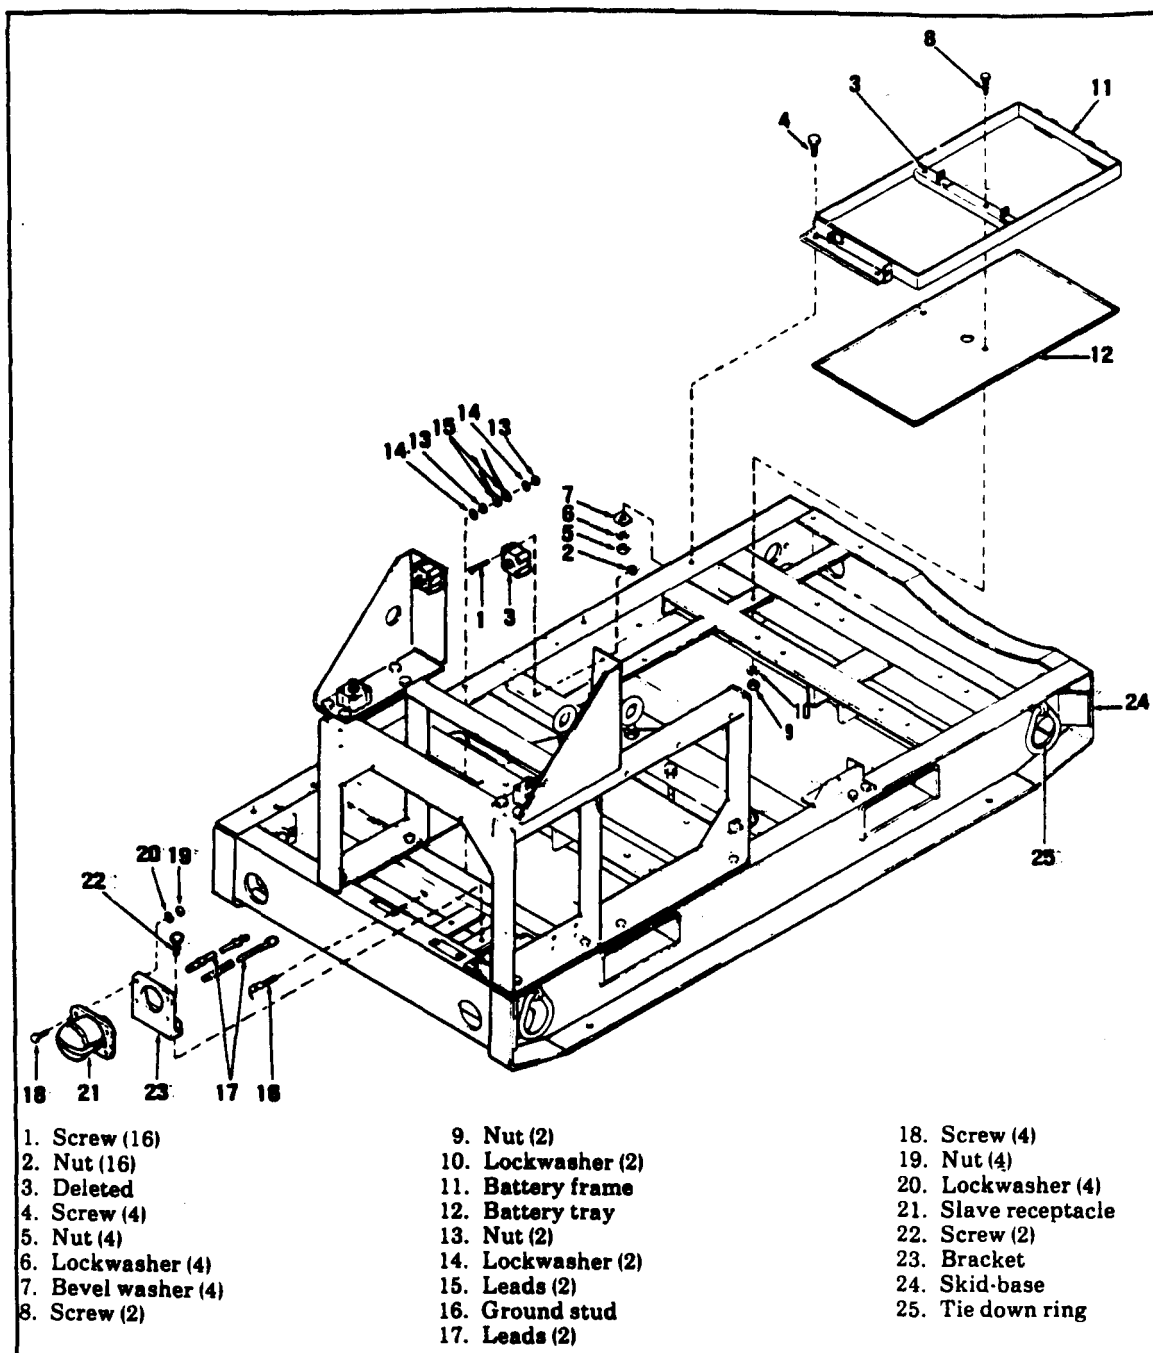

Figure 4-45. Skid Base Assembly.
a. Inspect (see figure 4-45). On ASK equipped generator sets, refer to chapter 5 and remove entire ASK assembly.
(1) Vibration Mounts. Inspect vibration mounts (3) for cracked rubber and loose or missing hardware.
(2) Battery Frame Bottom. Inspect battery frame (11) for corrosion, bends, dents or broken welds.
(3) Battery Tray. Inspect battery tray (12) for corrosion, or physical damage.
(4) Ground Stud. Inspect ground stud (16) for physical damage to threads, nuts and washers.
(5) Tie Down Ring. Inspect tie down rings (25) for physical damage. Check that they are securely mounted to skid-base.
(6) Skid-Base. Inspect skid-base (24) for physical damage. Check that skid-base is not bent or bowed.
b. Remove (see figure 4-45).
(1) Vibration Mounts.
(b) Remove four screws (1, figure 4-45) and nuts (2) attaching each mount in place and remove mounts (3).
(2) Battery Frame and Tray Removal.
(b) Remove screws (4 and 8, figure 4-45), bevel washers (7), lockwashers (8 and 10), and nuts (5 and 9). Remove frame (11) and tray (12).
(3) Ground Stud. Remove nut (13) and lockwasher (14) attaching ground leads (15) from starter to ground stud (16). Remove nut (13) and lockwasher (14) attaching ground stud to skid-base (24). Remove stud.
(4) Slave Receptacle. Tag and remove leads (17) from slave receptacle (21). Remove receptacle (21) by removing screws (18), nuts (19) and lockwashers (20). Remove mounting bracket (23) by removing screws (22).
(1) Battery Frame Bottom. Clean, weld and straighten battery frame as required.
(2) Battery Tray. Clean and straighten battery tray as necessary.
(3) Repair of Broken or Lost Terminal Clip (Retainer, Safety Clip). For fabrication procedure, see paragraph 4-37.
d. Install (see figure 4-45).